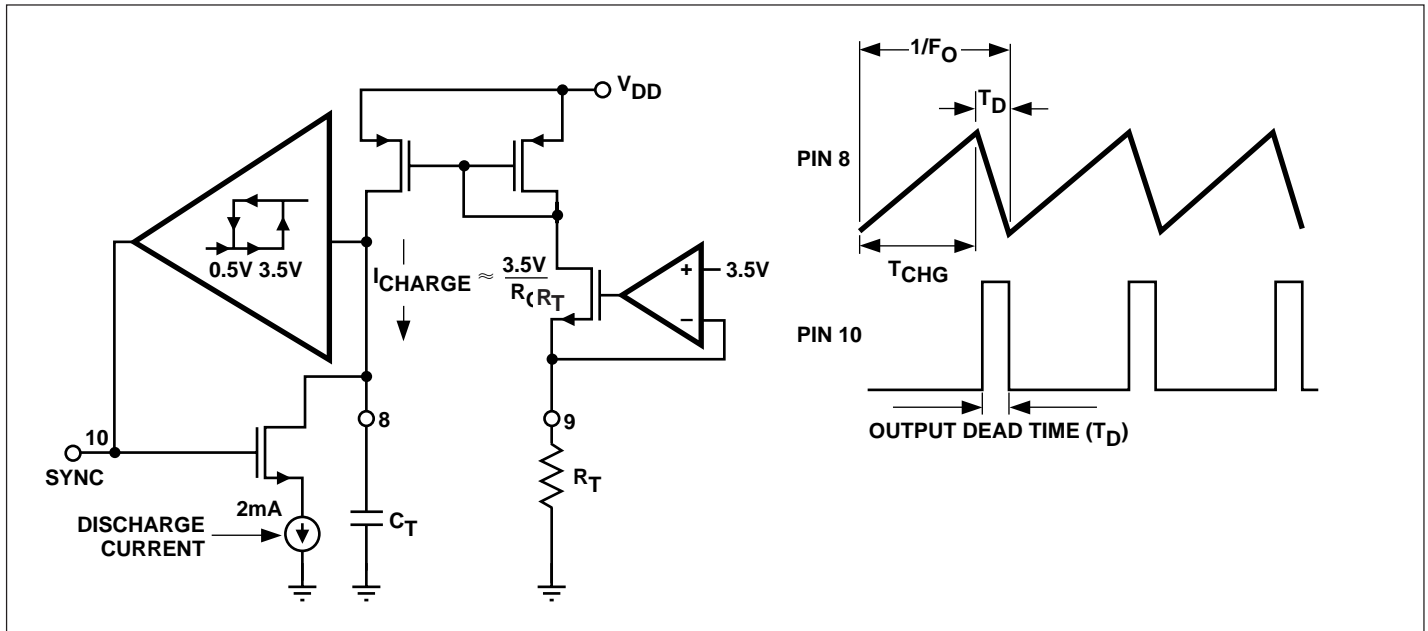

Figure 6. Oscillator Circuit
- 1) First determine the frequency of operation F_O and the desired "dead" time", T_D (see Fig.6 graph).
- 2) The current mirror in Fig. 6 , shows: